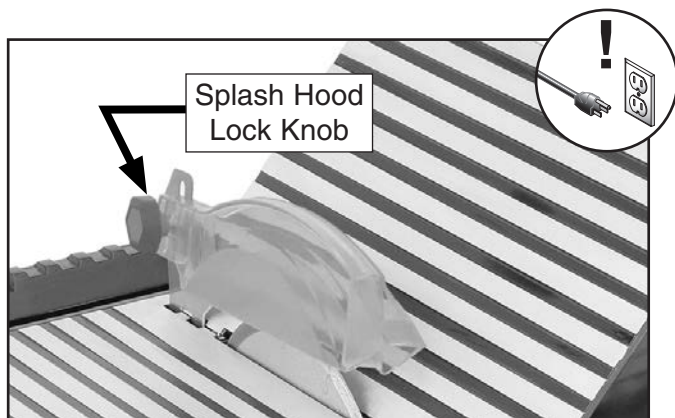

Figure 28. Splash hood lock knob location.
5. Loosen splash hood lock knob and adjust hood to height of tile (see **Figure 28**). Hood should be as close to tile as possible without touching.